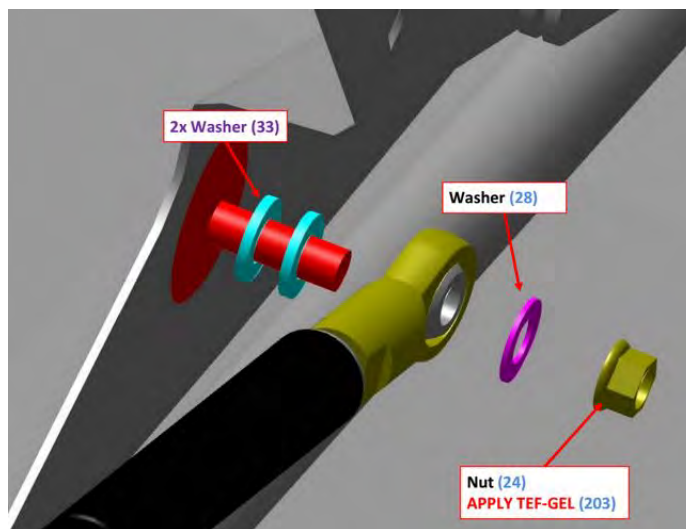

FIGURE 9-49
2. Ensure that there are two NAS1149C0463R washers on the threaded stud that attaches the cylinder end of the strut to the structure, prior to strut installation. See Figure 9-49.